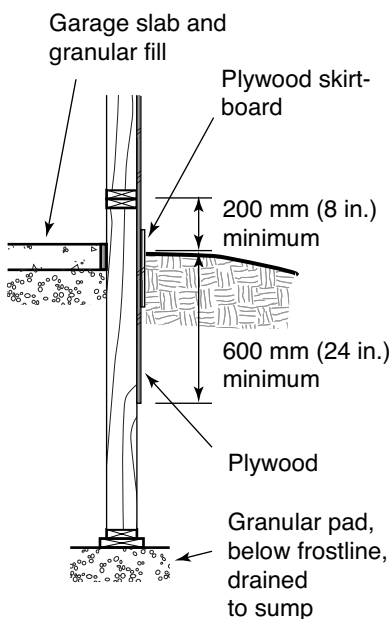

FIGURE 61
- ◆ Drain the granular pad below frost walls, such as those used for attached garages (see Figure 61).